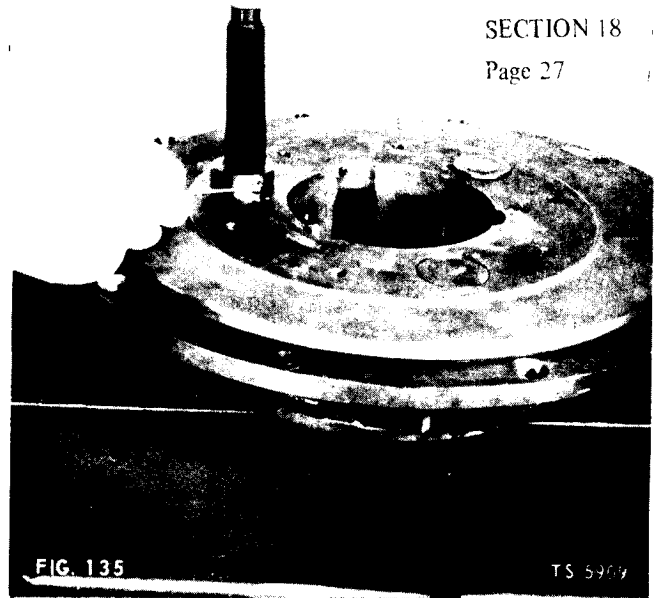

FIG. 135
3. Press in pinion shaft, making sure the pinion shaft ball recess aligns with groove in spider. Insert pinion shaft ball and complete press (Fig. 135). Press end of pinion shaft flush with face of spider assembly.